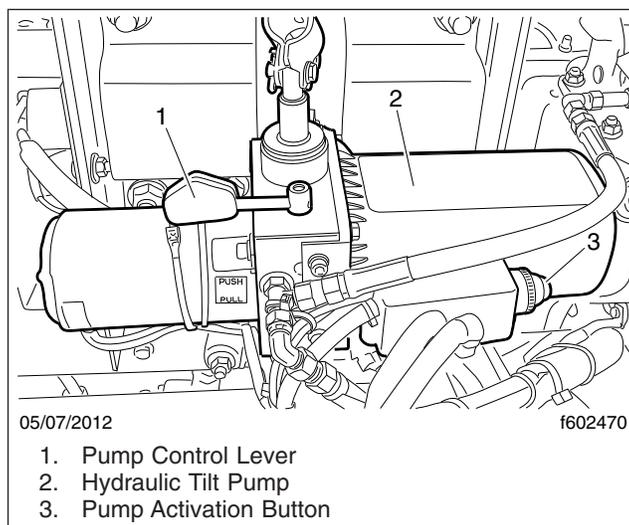

Fig. 16, Cab Tilt Pump
6. Move the pump control lever to the TILT position. See fig. 16.